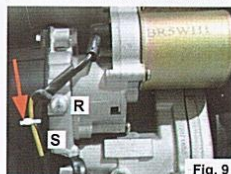

Fig. 9
14. On the right side of the generator, remove the M6 X 12 bolt that secures the yellow and green ground wire to the engine block (Fig. 9, R), and remove the wire (Fig. 9, S). **Discard the screw—do not reinstall it. The hole (Fig. 10, R) should remain empty.**
15. Snip the white wire tie (Fig. 9, red arrow) so that the ground wire can be relocated 2-1/2" further down.